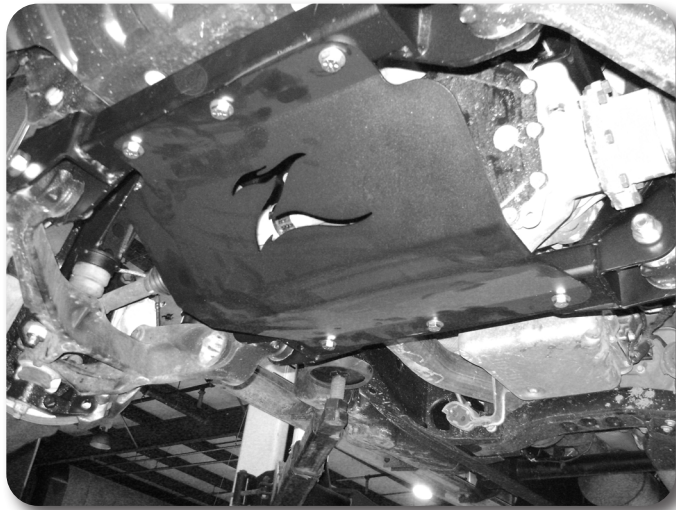

Figure 34
50. Locate the new differential skid plate. Position the skid plate so that it aligns to the thread holes on the bottom of the front and rear cross members Figure 34. Fasten the skid plate with 1/2" x 1-1/4" bolts and 1/2" SAE washers. Use Loctite on the bolt threads and torque bolts to 60 ft-lbs.